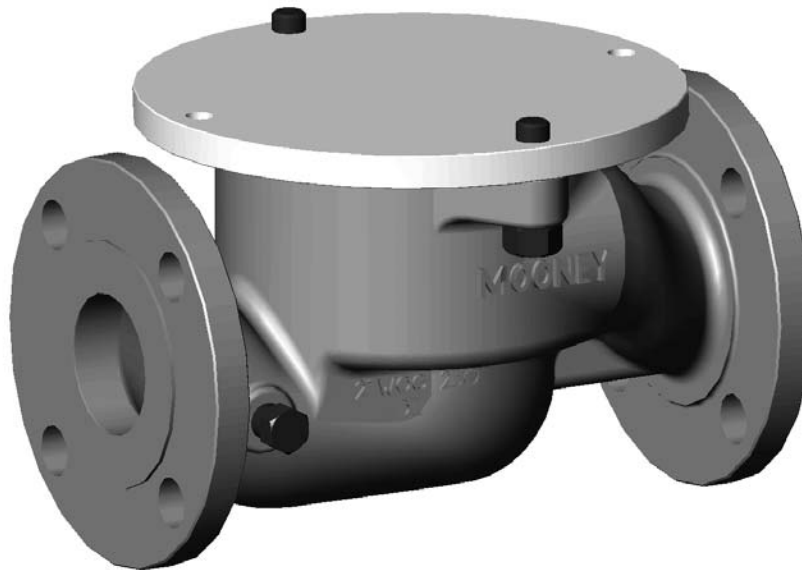

Fig. 4 Installed Hydrostatic Plug.
**NOTE: A plug for hydrostatically testing the Body is available from the Factory (See Figure 4).**